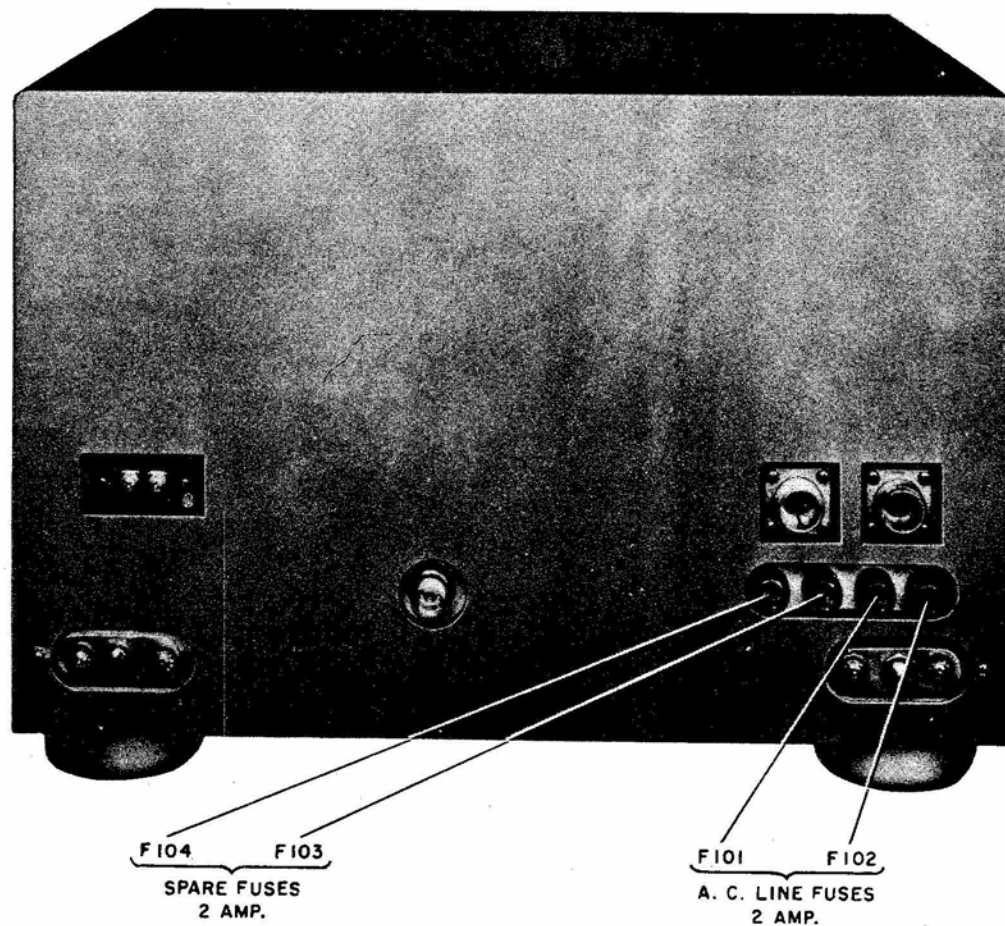

Figure 5-2. Fuse Locations
b. FUSE REPLACEMENT. (See Figure 5-2.)—If the receiver is inoperative and the channel indicator pilot lamps are not lighted, check the receiver fuses F-101 and F-102. Fuses F-101 and F-102 are two-ampere fuses and are mounted with two spares, F-103 and F-104, at the rear of the receiver. Probable cause of fuse failure is a short-circuit in the primary of the power transformer, the filament circuit or the B-plus circuit.